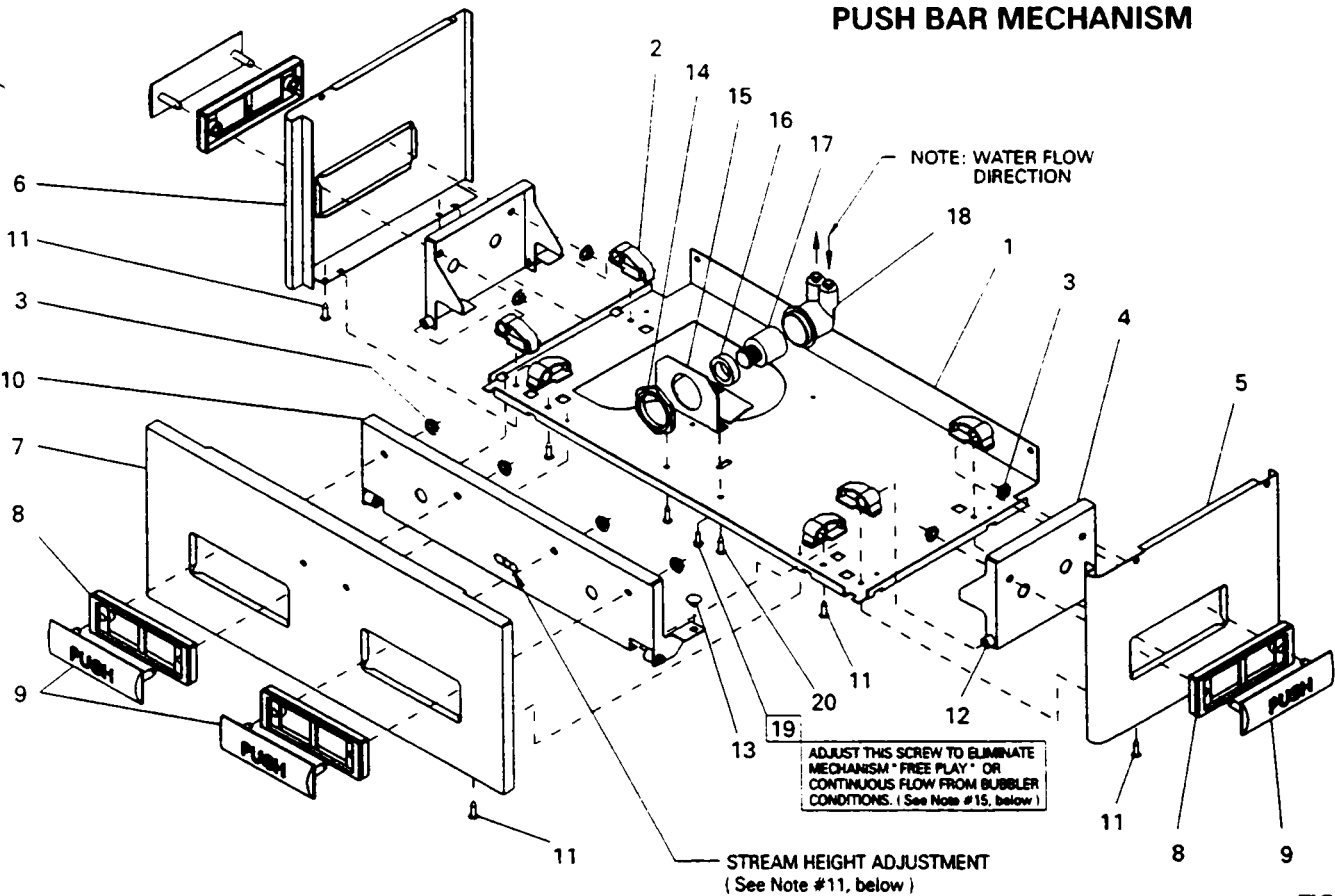
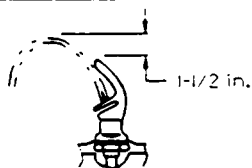

FIG. 4
FIG. 5
- 11). Stream height is factory set at 45 - 50 PSI. If supply pressure varies greatly from this, readjust stream height to approximately 1-1/2" above the bubbler guard by turning adjustment screw, accessible by removing front push panel, Item No. 7 (see Fig. 4 and Fig. 5).